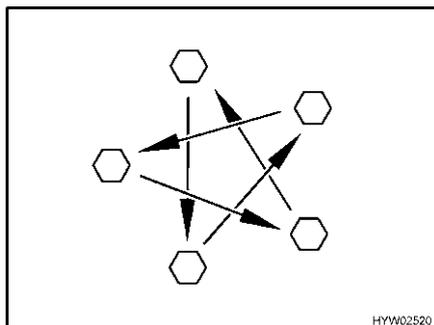

Fig. 166 Tighten the wheel nuts or wheel bolts cross-wise
- Check regularly that the wheel nuts or wheel bolts are firmly seated. Retighten the wheel nuts or wheel bolts of a changed wheel cross-wise (Fig. 166) after 50 km (30 miles). See section 13.5.2 for tightening torque.
- ▷ Tighten the wheel nuts or wheel bolts cross-wise (Fig. 166).